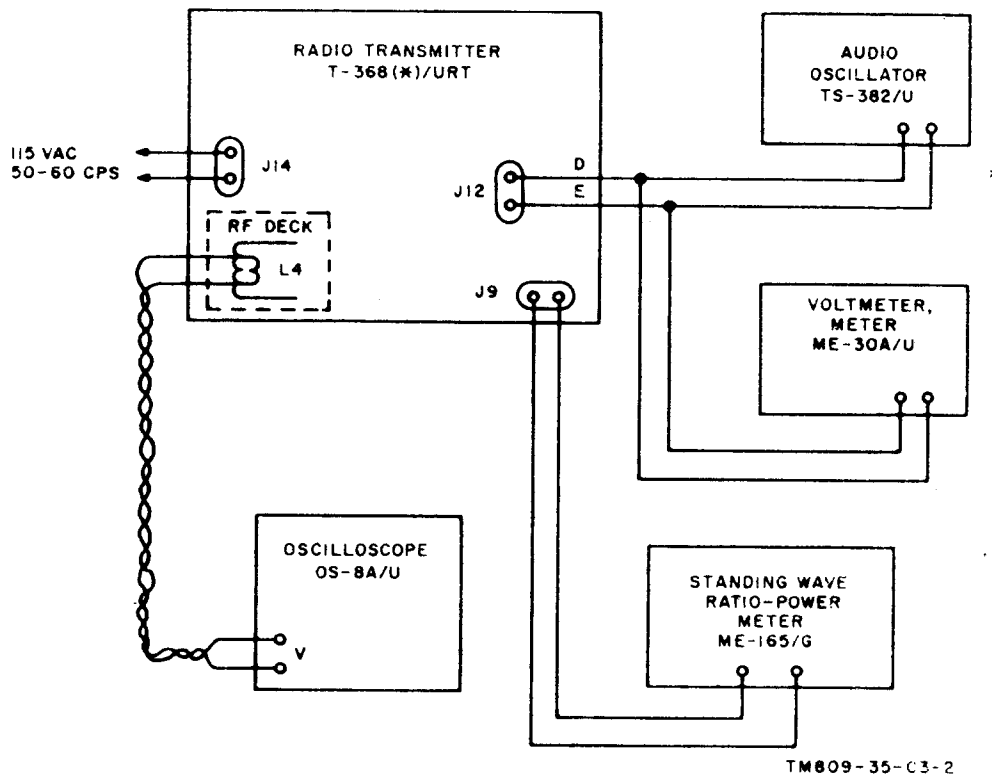

Figure 105. Output power test setup.
Connect the equipment as shown in figure 105.
a. Refer to figure 105 for TS-382/U and OS-8A/U connections. Adjust the TS-382/U for a frequency of 1,000 cycles.
- (1) Set the audio input level to J12 on T-368(\*)/URT, from the TS-382/U at -34 dbm. The ME-30A/U will be used to measure the dbm.
- (2) Turn the CARBON MIKE GAIN control R16 fully counterclockwise.
- (3) Vary the 600 OHM LINE GAIN control R17 an indication of 100 percent modulation is obtained on the OS-8A/U.
- (4) Set the audio input level from the TS-382/U at +6 dbm as recorded on the ME-30A/U, and repeat the procedures given in a(2) and (3) above. The OS-8A/U will indicate 100 percent modulation.